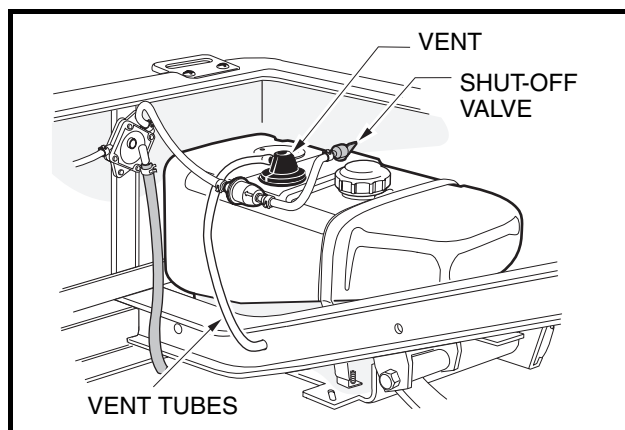

Figure 10-14 Fuel Tank
- If the vehicle has an all-weather enclosure installed, be sure the fuel tank is properly vented as shown (Figure 10-14, Page 10-14).